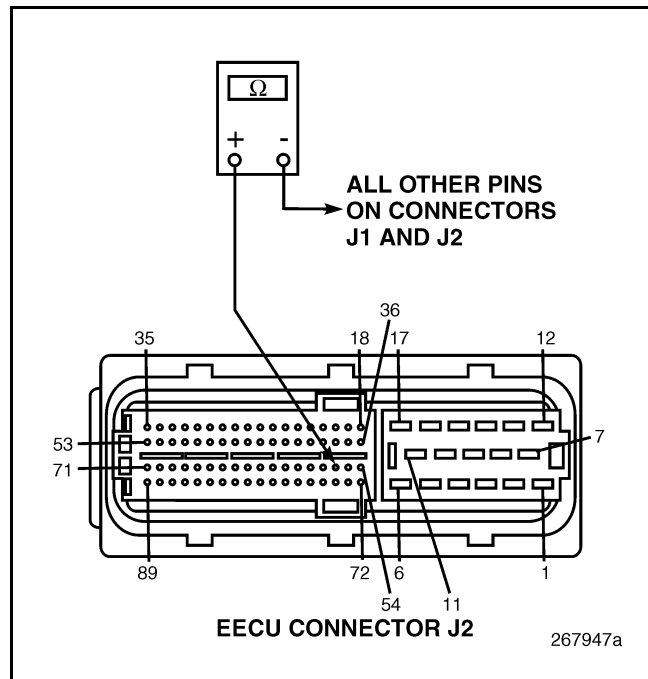

Figure 369
3. Check for continuity between EECU connector J2 pin 56 and all other pins on EECU connectors J1 and J2 (see Figure 369).